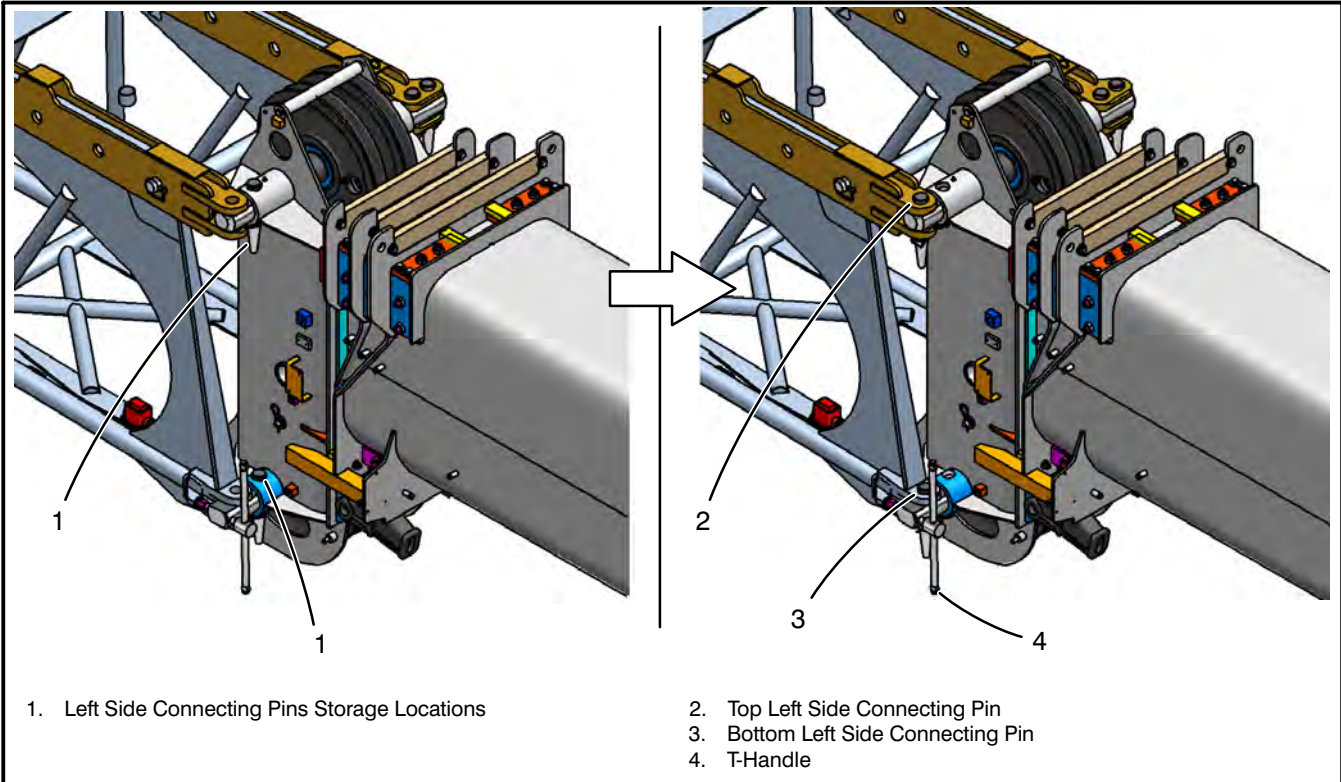

Figure 4-93
14. Remove the two fly connecting pins from the storage locations (1) on the boom head machinery cross shafts on the left side of the boom. Refer to Figure 4-93. Install one pin through the top fly lug (2) on the left side of the boom. Turn the t-handle (4) to push and align the bottom left fly lug and the bottom boom head machinery cross shaft. Install the bottom left fly connecting pin (3). (Install the pins with the head on top and the keeper on the bottom.) Install the pin keepers. Back off the t-handle until at least a 1/2 in (1.3cm) clearance from the fly lug is obtained.